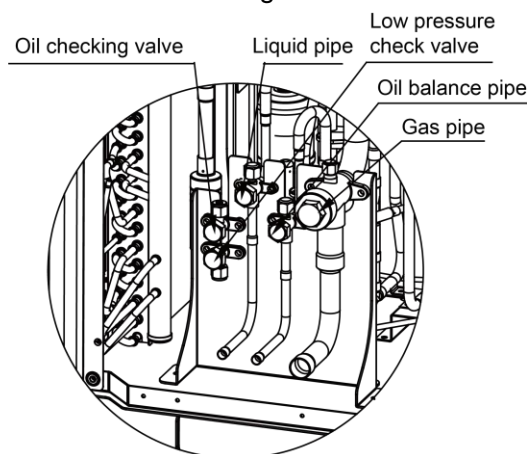

Fig.4.4.2
- (2) When there are more than 2 outdoor units, air purging from the nozzle located on the oil balance valve. Confirm outdoor oil balance valves are closed. See Fig.4.4.2.